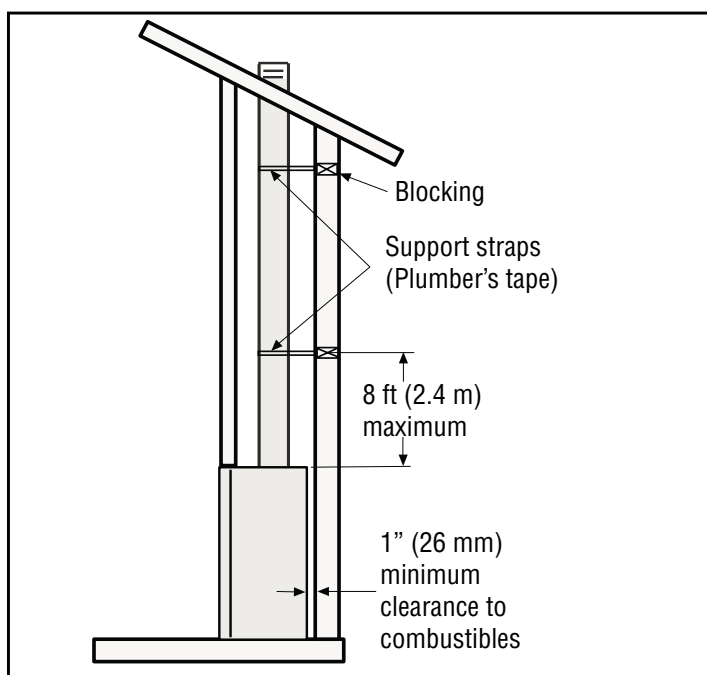

Figure 18 - Supporting the Vertical Vent Run
4. **Support the vertical vent run sections**—Support the vertical portion of the venting system every 8 ft (2.4 m) above the fireplace vent outlet. One method of support is by utilizing field provided support straps (conventional plumber's tape). Secure the plumber's tape to the framing members with nails or screws. Loop the tape around the vent, securing the ends of the tape to the framing. If desired, sheet metal screws #6 x 1/2" length may be used to secure the support straps to the vent pipe (**Figure 18, Page 20**).